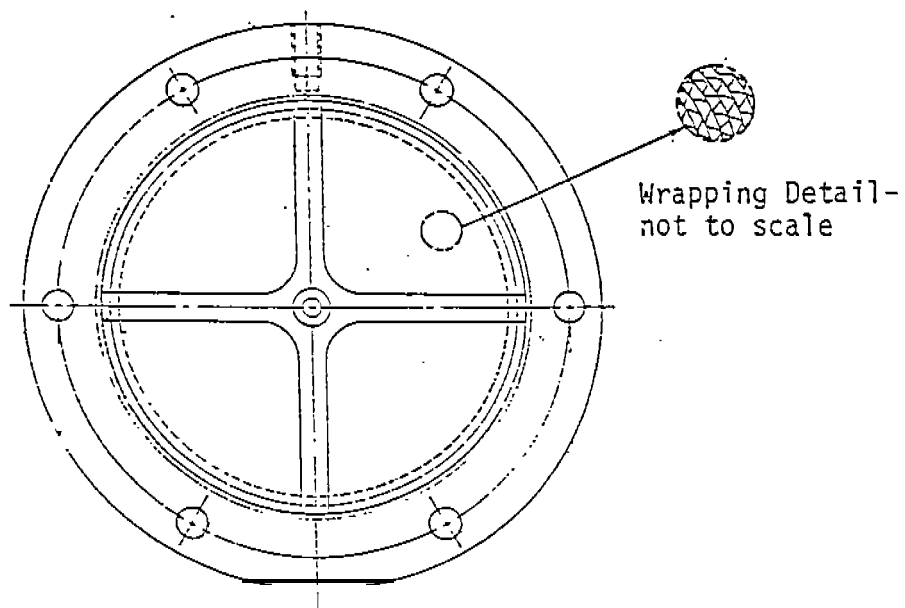

Figure 3. Intake Flame Arrester
6. () The Flame Arrester is shown in Figure 3.